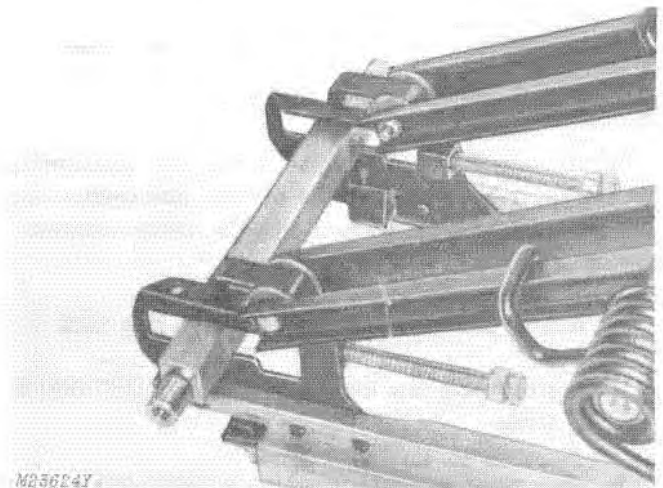

Fig. 7-Installing Rear Axle
4. To reassemble: Place rear axle through slide rail with holes in axle facing forward. Be sure grooves in axle fit slide rail correctly, Fig. 7.